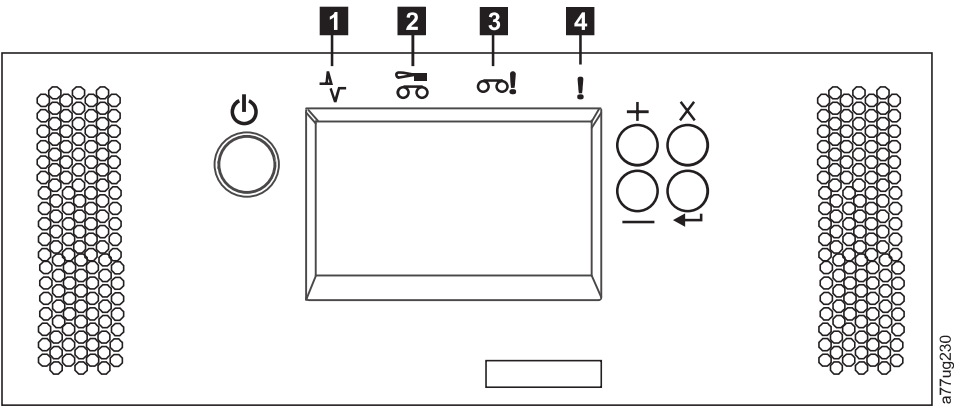

Figure 10-22. Library front panel LEDs
- 1) After power up, the Ready/Activity LED (**1** in Figure 10-22 on page 10-23) will turn ON.
- 1) The Error LED (**4** in Figure 10-22 on page 10-23) will turn ON.
- 1) The Error LED (**4** in Figure 10-22) will turn ON. This indicates that the Library Controller Card from the defective library is not functioning properly.
- 1) The replacement library enclosure will complete with the Ready/Activity LED (**1** in Figure 10-22 on page 10-23) ON.
- 1) The replacement library enclosure will power up with the Ready/Activity LED (**1** in Figure 10-22 on page 10-23) ON.